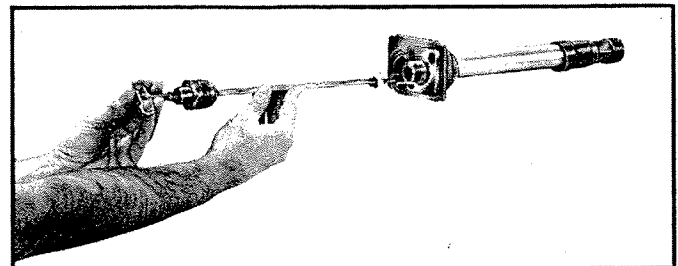

FIGURE 4
**B.** Use pliers. Firmly grip Cap Retainer (8) and turn counterclockwise to remove it, then remove Deflector Cover (7). *Shut off hydrant as tight as possible with Control Key (1) and use an adjustable open end wrench or channel-lock type pliers to "break" Draw Nut (11) loose, then remove it with Control Key (1), turning counterclockwise until threads are free from Hydrant Head (12). Grasp Draw Nut (11) firmly and pull toward you to remove Actuator (2) and Actuator Rod (3).* See Figure 4.